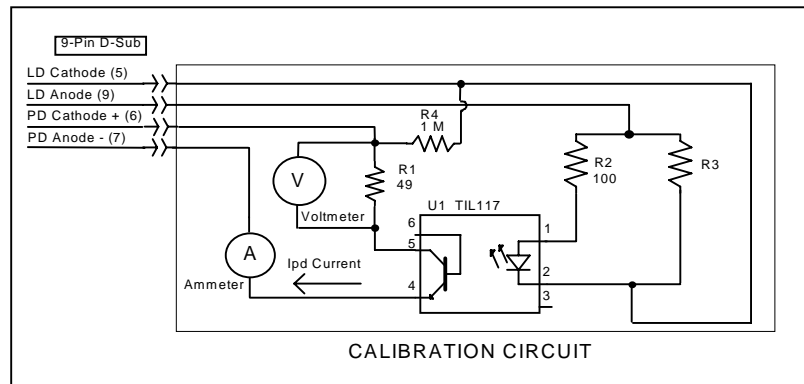

Figure 6.1  $I_{PD}$  Calibration Circuit
It will be necessary to connect various loads and circuits to the outputs of each current source for the calibration procedure. A schematic is shown in Figure 6.1 for the photodiode calibration circuit with the required components listed in Table 6.2. Also, the devices required for other calibration loads are listed in Table 6.2.
PD Monitor Calibration (See Schematic in Figure 6.1)
- a. With the LASER output off, connect a calibrated ammeter to the PD Anode output of the Laser Current Source output connector (9 pin on rear panel), and connect the circuit of Figure 6.1 to the LASER and PD outputs with the correct load resistor for the Current Source model you are calibrating (See Table 6.2).
**Note:** If a precision ammeter is not available, use a zero-Ohm jumper in place of the ammeter. Then, place a calibrated DMM (with 0.1 mV resolution) to measure the voltage across the resistor, R1, as shown in Figure 6.1. Calculate the current in the following steps by using Ohm's Law: